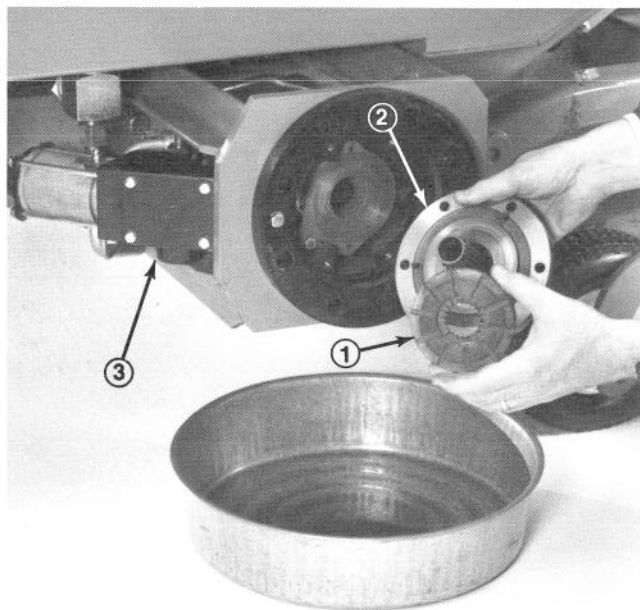

Figure 5
9. Remove brake housing cap and outer brake disc (Fig. 5).
10. Remove four (4) capscrews and remove cover from brake actuator housing (Fig 5).